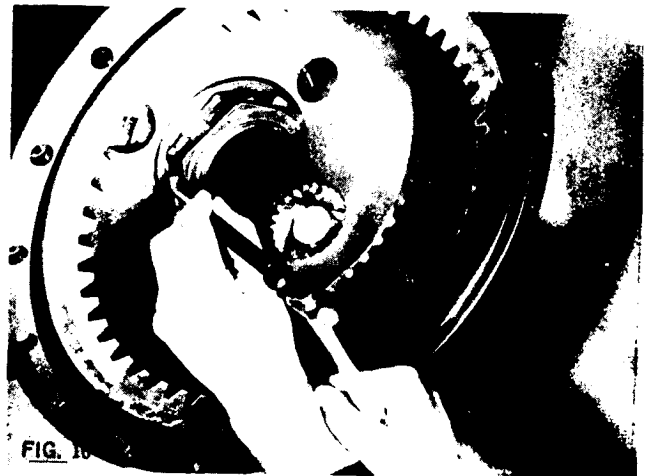

FIG. 10
10. Straighten tangs on nut lock as shown in Fig. 10.